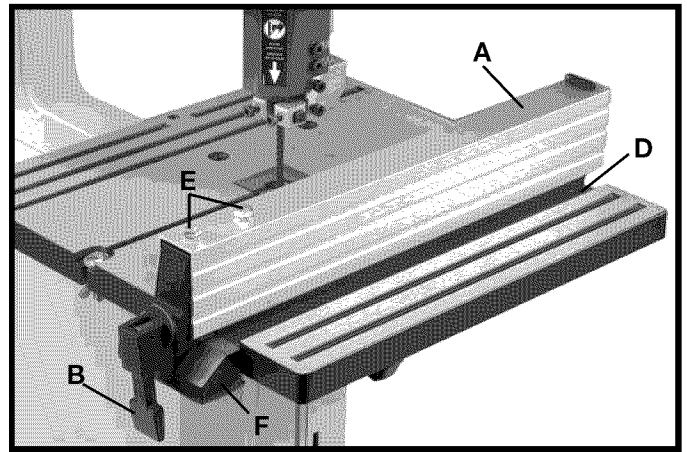

Fig. 42
The accessory rip fence (A) Fig. 42, can be moved along the table surface by lifting lock lever (B) and sliding the rip fence (A) to the desired location on the table. Push down on lever (B) to firmly lock rip fence in position on the table. When the rip fence (A) is locked to the band saw table, it should be parallel to the miter gage slot (D). If an adjustment is necessary, proceed as follows:
2. Loosen two screws (E) Fig. 42, and raise locking lever (B).
3. While holding rip fence bracket (F) Fig. 42 firmly, move the far end of the fence (A) until it is parallel with the miter gage slot (D).
4. Tighten two screws (E) Fig. 42, and push down on locking lever (B).
5. Clamping action on the rip fence (A) Fig. 42, can be tightened or loosened by lifting locking lever (B) and rotating lever (B) clockwise or counterclockwise as necessary.